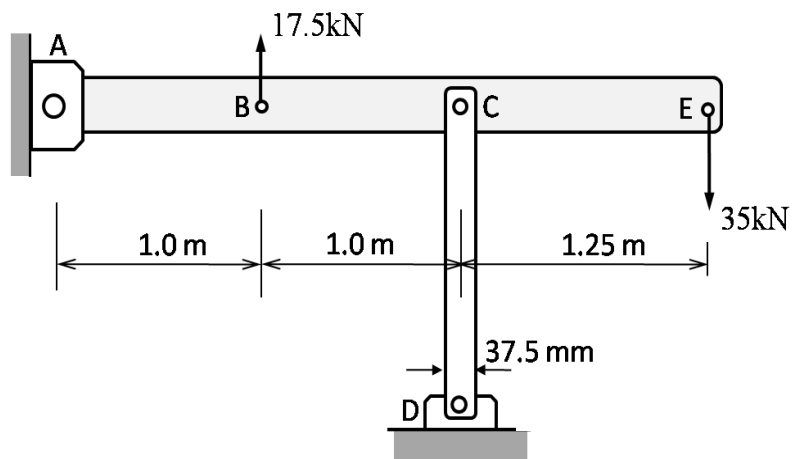
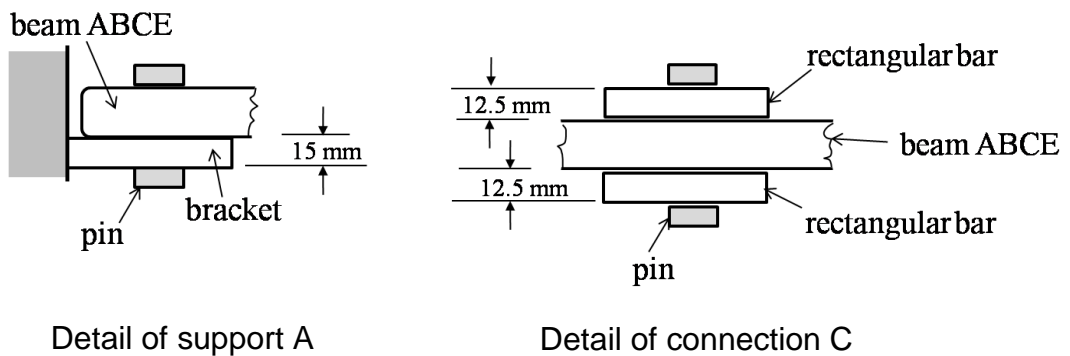

Figure 2 / Rajah 2
Figure 3/Rajah 3
2. (a). **Figure 2** shows a rigid beam ABCE which is supported by a pair of rectangular bars at C and a bracket at support A. Both ends of the rectangular bar are pinned and the cross-sectional size of each of the rectangular bar is 37.5 mm × 12.5 mm. Support A is pinned and the thickness of the bracket is 15 mm. The diameter of pin at A and C are 17.5 mm and 12.5 mm, respectively. Details of connection at A and C are shown in **Figure 3**. Vertical loads of 17.5 kN and 35 kN act at point B and E on the rigid beam ABCE, respectively.